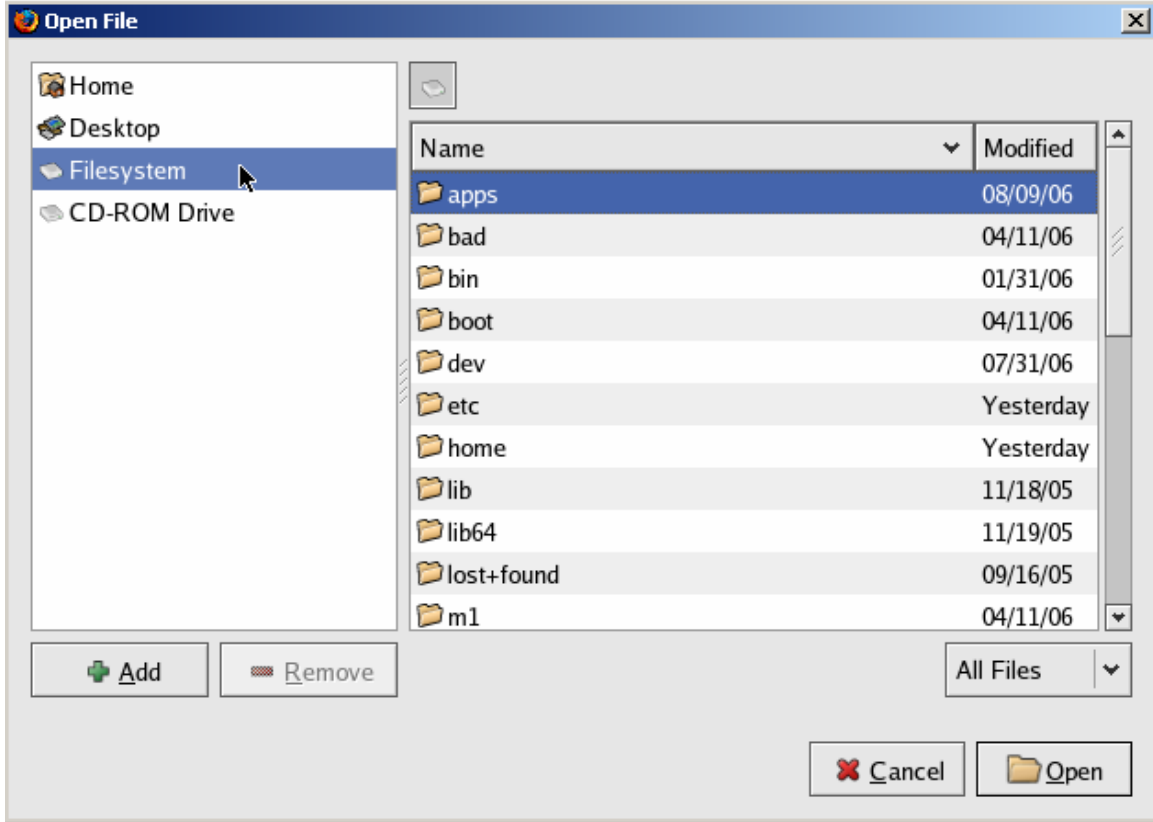

Figure 3: Open a file (File system).
4. Click on Filesystem in the left control area of Figure 3.
5. Click on apps in the right control area of Figure 3.